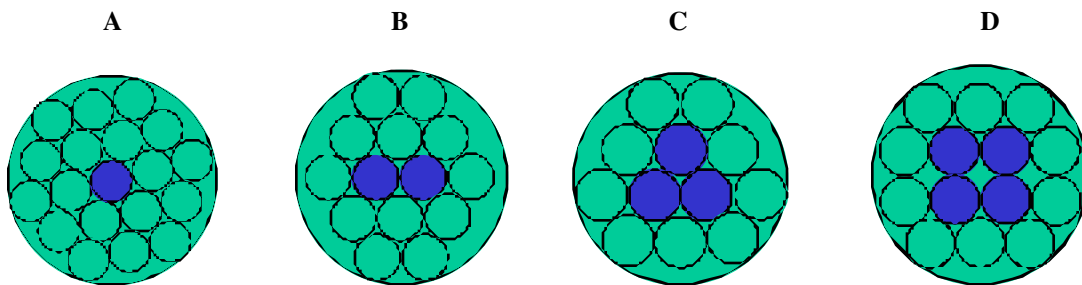

Fig. 1
Outerducts enclosing a given number of innerducts based on volume. --four of many possible compact arrangements of circles within a circle are shown at A, B, C, and D in Fig. 1.
1. **Arrangements of Center of Core Innerducts:** the four most common arrangements of center or core innerducts are shown cross-sectioned in Fig 1. It may seem that the “A” pattern would require the smallest enclosing outerduct for a given number of enclosed innerducts, but this is not always the case since the most compact arrangement will, in part, depend on the number of innerducts to be enclosed.
2. **Diameter of Enclosing Outerduct:** Successive, complete layers of innerducts may be placed around each of the central cores, Fig. 1, of 1, 2, 3, or 4 innerducts as the case may be. The number of innerducts contained in arrangements of complete layers around a central core of innerducts, as well as the diameter of the enclosing outerducts, may be obtained using the data in Table 1.
Thus, **for example**, the “A” pattern in Fig. 1 shows by actual count, a total of 19 innerducts arranged in two complete “layers” around a central core consisting of one innerduct. This agrees with the data shown in the left half of table 1 for $n = 2$